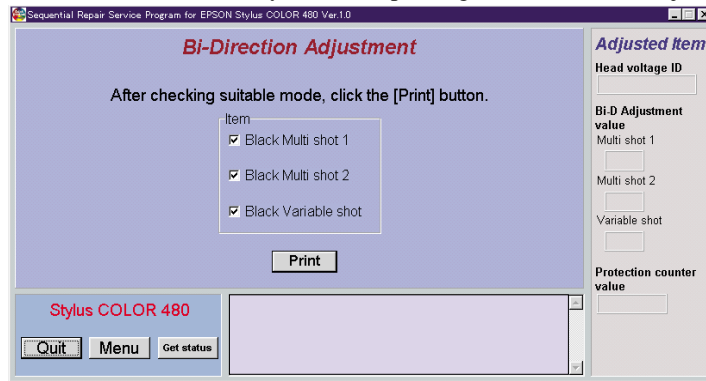

Figure 5-15. Bi-d adjustment menu
10. After input the suitable pattern number, click the “Retry” button to return the Bi-directional check alignment + pattern print menu of Figure 5-15. When the “Print” button is clicked for the 2nd check pattern printing, following message is displayed. When the same paper used for 1st check pattern printing is set in the ASF and click the “OK” button in the following message, printer advances the paper automatically under the 1st printed pattern and the 2nd check pattern is printed from the position.